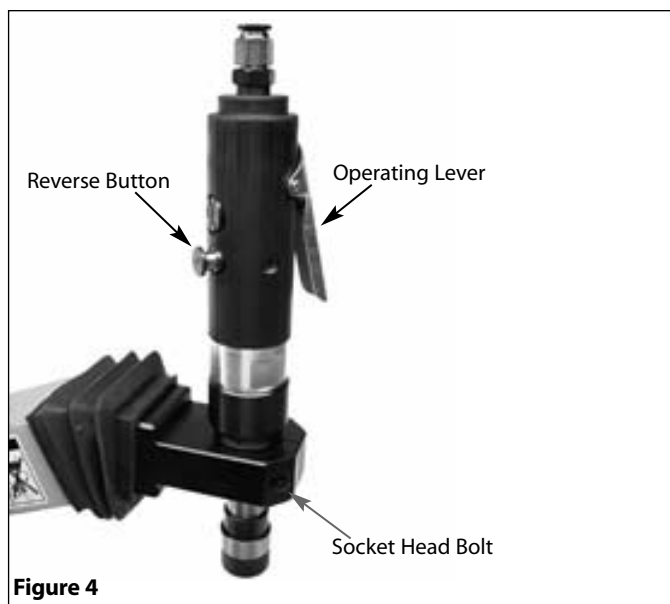

Figure 4
Refer to Figure 4.
Refer to Figures 4 and 11.
- Spindle motor speed can be adjusted by turning the screw above the reverse button (see Figures 4).